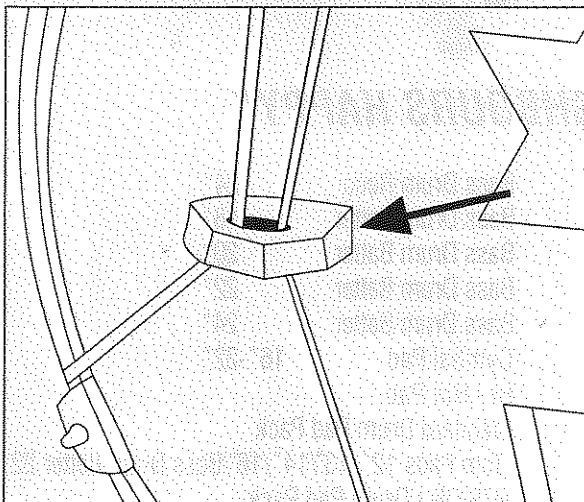

figure 3
The foam holder should fix the drum pad according to the picture. (figure 3)
1. Open the transport box and sort drum cymbals, drum rims and heads (fig. 3 and 4).